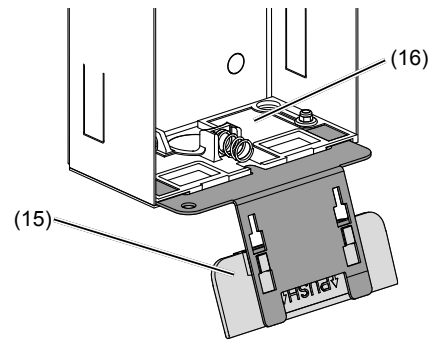

Figure 5: inserted opening tool
(14) Support bracket of the fastening elements
- Insert opening tool (15) into the mounting device of the lower fastening element (16) on the housing (Figure 5).
(15) Opening tool
(16) Fixing element
- Attach the loops of the safety rope (17) to the upper left suspension of the door station and to the upper fastening element (18) in the housing. Place the door station for installation onto the opening tool (Figure 5).